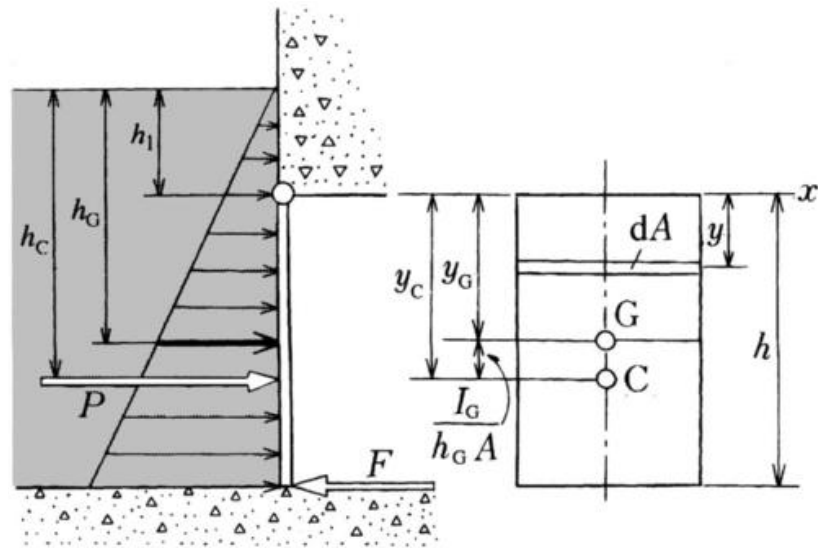

Fig. 3.16 Rotational force acting on water gate (2) (case where water gate is under water)
The position of  $y_C$  in such a case where the sluice gate is located under the water surface as shown in Fig. 3.16 is given by eqn (3.28) where  $h_G$  is substituted for  $y_G$  in the second term on the right of eqn (3.27):
6. What are the respective forces  $F$  acting on the lower stays of the water gates in Figs 3.14 and 3.16, provided that the height  $b$  of the water gate is 3 m, the width is 1 m, and  $h_1$  in Fig. 3.16 is 2 m?